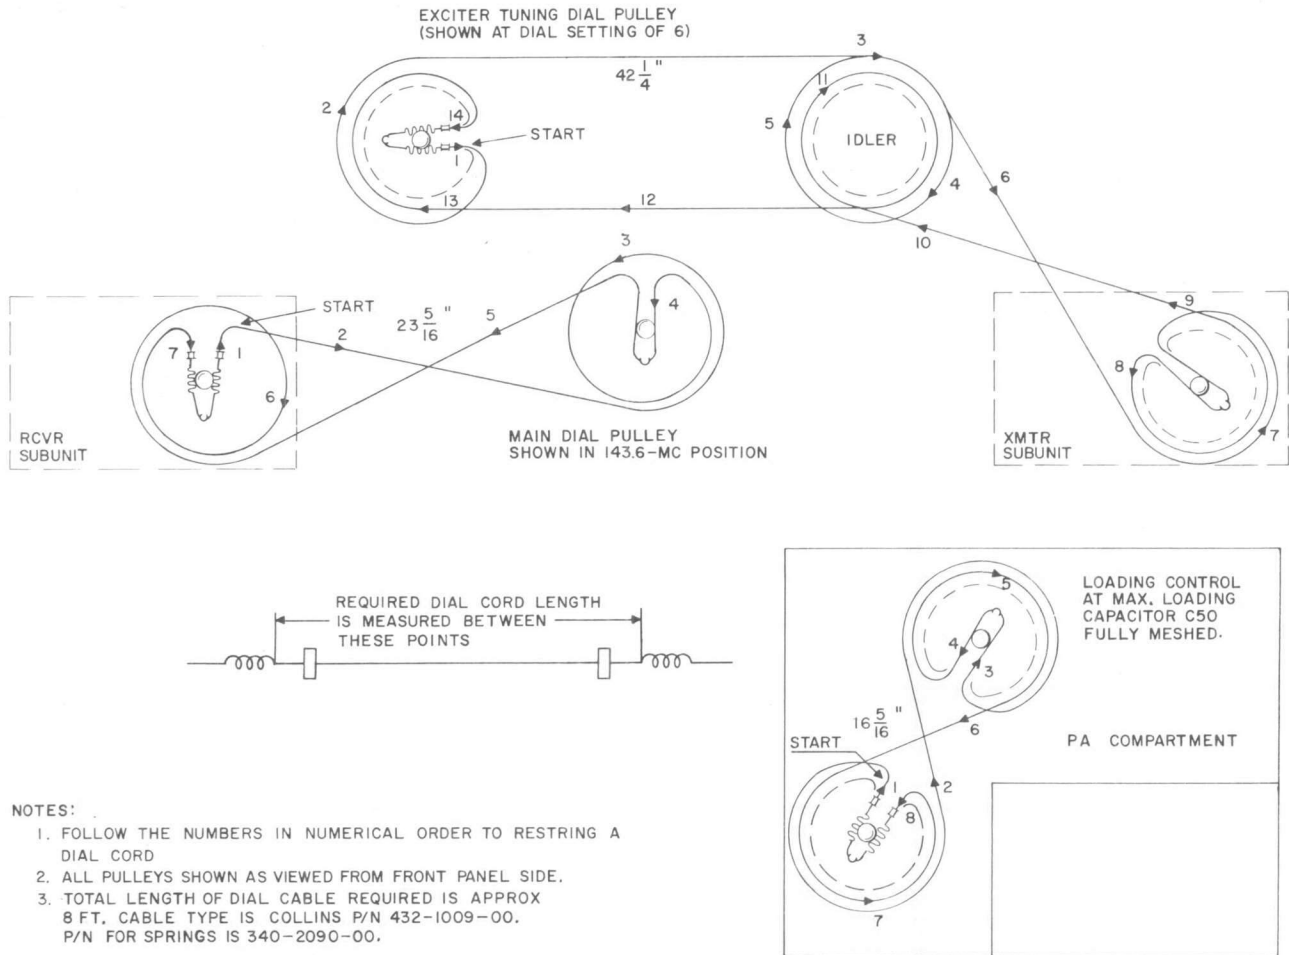

Figure 4-2. Dial Cord Stringing Diagram
- d. Check the positions of the pulleys on the main dial and the receiver subunit. They should be positioned approximately as shown in figure 4-2.
- e. Attach free end of one dial spring to receiver tuning pulley and string cord as shown in figure 4-2. The previously mentioned hemostat or seizer can be used to clamp the cord in place on the main dial pulley while completing the final turn around the receiver pulley and attaching the spring to the pulley.
- b. Set EXCITER TUNING to 6, and check positioning of exciter tuning pulleys. If necessary, set pulleys to positions shown in figure 4-2. Wipers on exciter inductor rings should be positioned at midpoint of rings.
- c. Attach spring on one end of cord to exciter tuning pulley (MP17, figure 6-1) and string cord as shown in figure 4-2. Use hemostat or seizer to clamp cord to pulley on exciter subunit MP4 while making second turn around idler and returning to exciter tuning pulley MP17.
b. Set LOADING lever at maximum. PA loading pulleys should be aligned as shown in figure 4-2, and loading capacitor C50 should be fully meshed.
c. String dial cord as shown in figure 4-2.